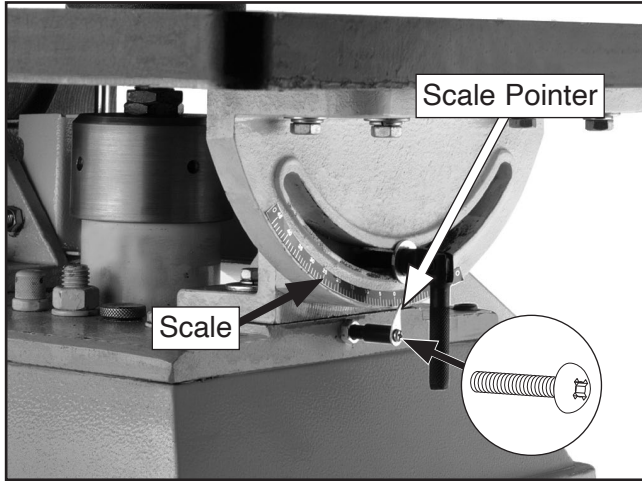

Figure 17. Scale components.
- Loosen Phillips head screw securing scale pointer (see **Figure 17**) and adjust pointer to 0° , then tighten screw.